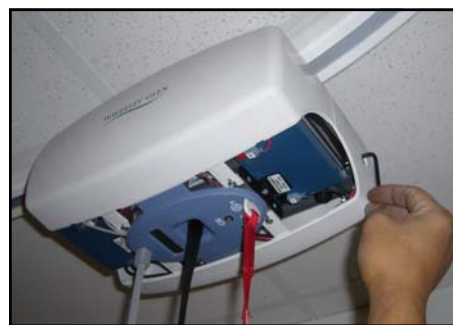

Figure 12D - Turn the Allen Key to lift/ lower the lift strap.
Step 4) Insert the Allen key into the hole discovered after removing the clip and turn the key with your fingers. Refer to Figure 12D. Turn the clockwise to lower the lift strap and counter clockwise to raise.